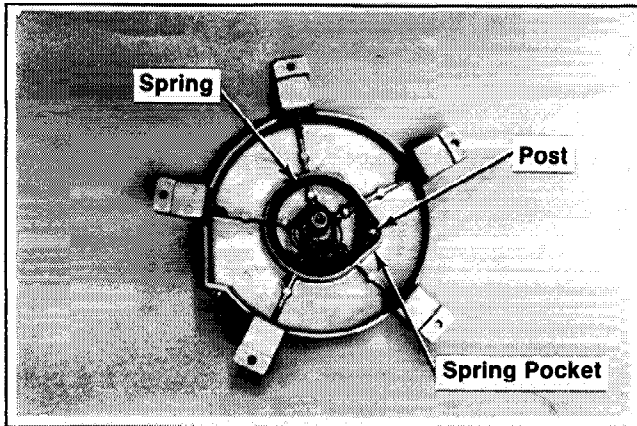

Figure 7-17. Position Of Spring In Housing.
1. Carefully note the position of the spring in the housing. Also refer to Figure 7-17. The new spring must be installed in the proper position – it is possible to install it backwards in the housing.
8. Position the spring/c-ring to the housing so the spring hook is over the post in the housing. Make sure the spring is coiled in the correct direction. Refer to Figures 7-17 and 7-19.